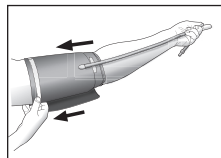

Fig. 4
2. Slide the cuff cylinder onto your left arm and align the artery mark over the brachial artery on the inside of your arm, Fig 4.
The tube should follow the inside length of the arm, Fig 4.